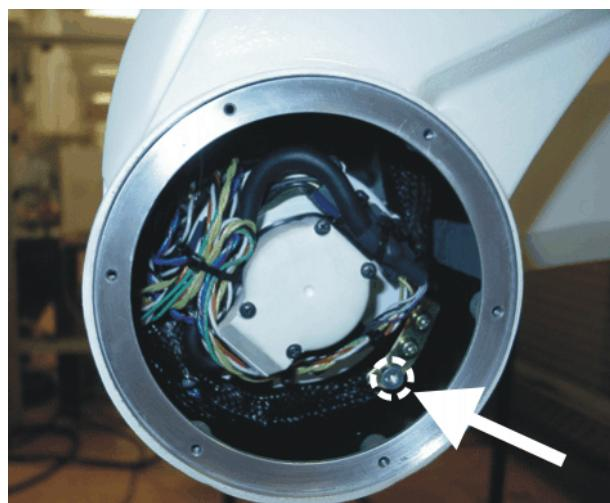

Fig. 10-14: Screw on A3
1. Remove the round motor cover on A3. Remove the screw shown (3 mm Allen key). (>>> Fig. 10-14)